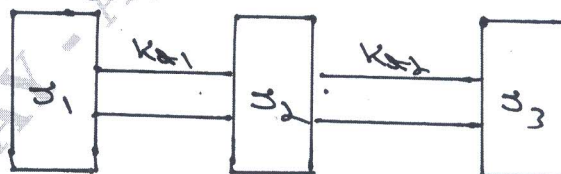

Fig.Q7(a)
- 7 a. Determine the natural frequencies of the system shown in Fig.Q7(a) by Holzers method. Given $J_1 = J_2 = J_3 = 1 \text{ kg mt}^2$, $Kt_1 = Kt_2 = 1 \text{ N-mt/rad}$.